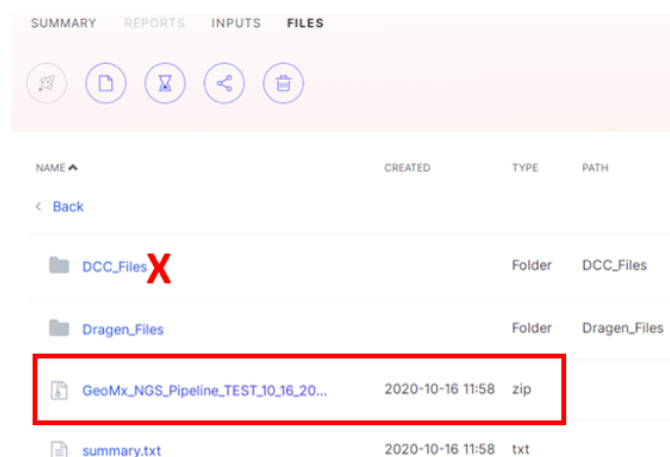

Figure 23: DCC.zip file output from GeoMx NGS Pipeline
3. Open the folder **GeoMx\_NGS\_Pipeline**. Download the DCC.zip output with the **name: GeoMx\_NGS\_Pipeline\_...** and **file type: zip** (Figure 23). (Despite its name, the folder "DCC\_Files" is not the zipped DCC output for download).